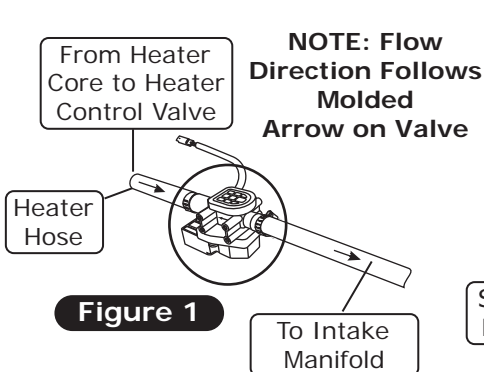

Figure 1
- Using (2) #8 x 1/2" pan head screws, attach the heater control valve bracket onto the back of the heater control valve, with the mounting hole on top as shown in Photos 1 and 2, below.
- Install a 4" length of 5/8" heater hose (See Photo 3, below) onto the inlet of the heater control valve (See Photo 4, below). Secure it with a hose clamp (See Photo 4, below). **NOTE: Ensure proper flow direction through the heater control valve. The flow direction follows the molded arrow on the valve (See Figure 1, below).**